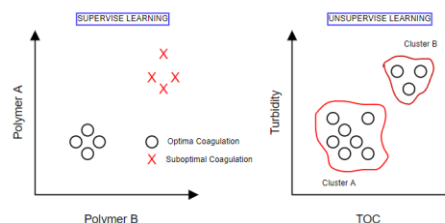

Figure 1 Supervised and unsupervised learning
Figure 1- Example of screen indicators and trend lines that will need to have their data links checked and verified when a new site is being added to a SCADA system
There are two differentiable groups of ML algorithms, supervised learning and unsupervised learning. Supervised learning is the group of algorithms that map an input to a separate output. This is achieved using labeled datasets. For example, given an injection of two polymers for water coagulation, with supervised learning, the system is trained to recognize the best combination of polymers that produces the best outcome for a given water condition and minimize the polymer usage by labeling the pair dosage (O) vs. (X) that represents good or poor results for the same raw water characteristics. See figure 1.